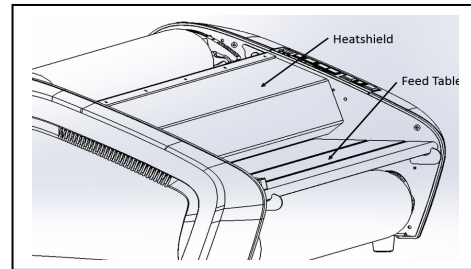

Figure 4
- C. **HEAT SHIELD:** (figure 4) Prevents inadvertent contact with the heat rollers. The HEAT SHIELD must be lowered for the RUN operation to work.
- D. **FEED TABLE:** (figure 4) The Feed Table is used to position items for lamination. Feed table must be installed and latched for laminator to operate.